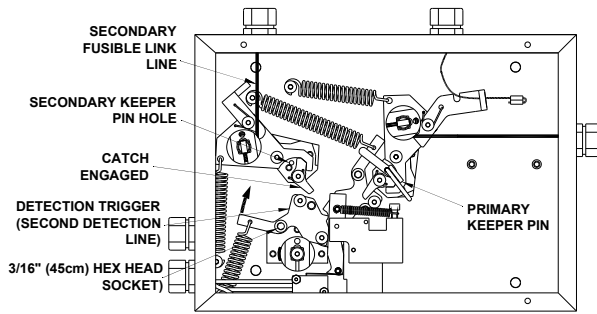

Figure 4-53.
3. Using a 3/16" hex wrench or ratchet with a 3/16" hex-bit socket, rotate (in a clockwise motion) the Secondary Detection Trigger upwards, until the Catch snaps into place, locking the Trigger in the SET position. Insert second Keeper Pin if desired. See **Figure 4-53**.